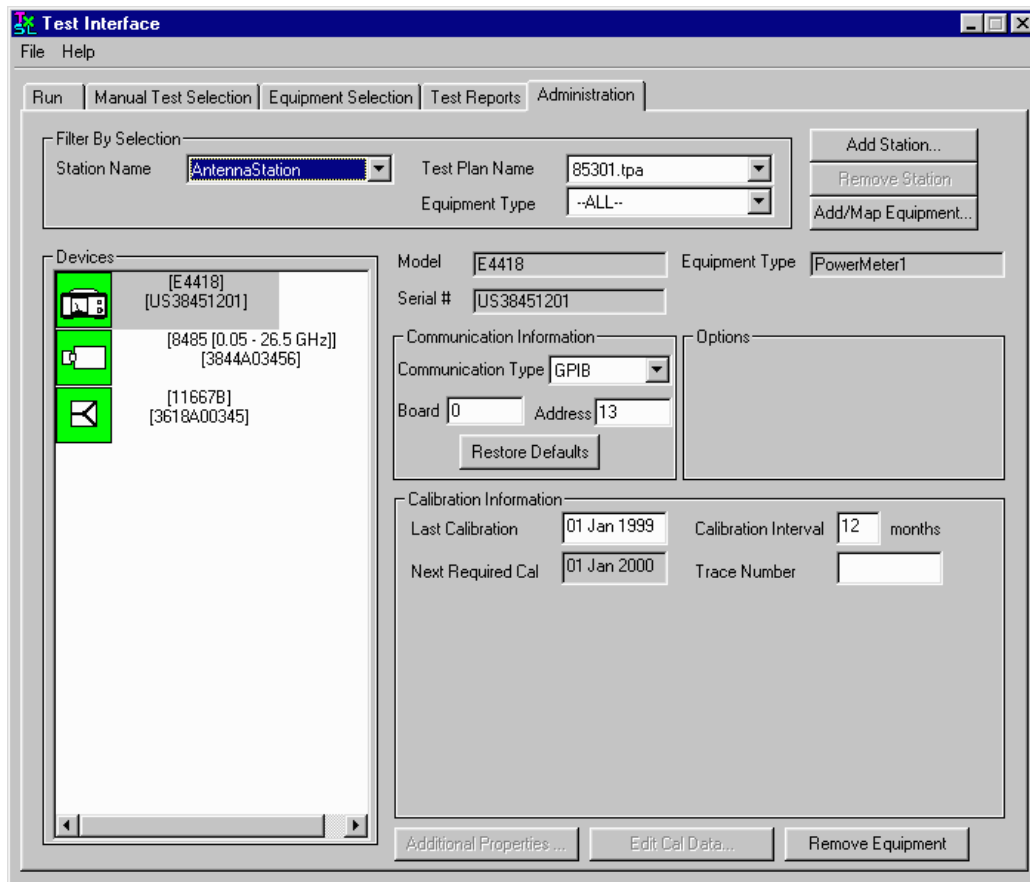

Figure 13 Administration Tab
- In the **Test Plan Name** drop-down menu, select the appropriate test plan for the system under test. See Figure 13. Table 9 shows available test plans provided with your software.
- After you have selected an appropriate test plan, click **Add Station**. See Figure 13.
8. Click the **Add/Map Equipment** button to begin adding (mapping) equipment to this test station. See Figure 13. The mapping function allows you to add all the equipment in your inventory to the software database, and then map specific instruments (by serial number) to specific test station setups.
When you have finished defining all of the desired test stations, enter the GPIB and calibration data for each instrument or device in each of your test stations. See Figure 13. When you enter the date of the most recent calibration, the device icon changes colors as follows:
2. Click the **Edit Cal Data...** button located at the bottom of the window. See Figure 13 on page -23.